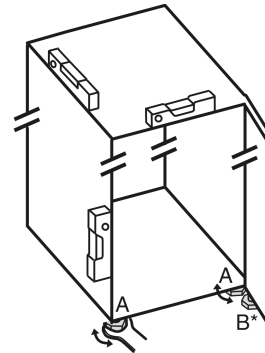

Fig. 27
- ▶ Unscrew the adjustable feet Fig. 27 (A) using the enclosed open-end spanner and a spirit level until the appliance is firmly aligned and level.
- ▶ Unscrew the adjustable foot Fig. 27 (B) on the swap bearing block with the enclosed open-end spanner until it rests on the floor.
- ▶ Turn the adjustable foot Fig. 27 (B) 90° further.